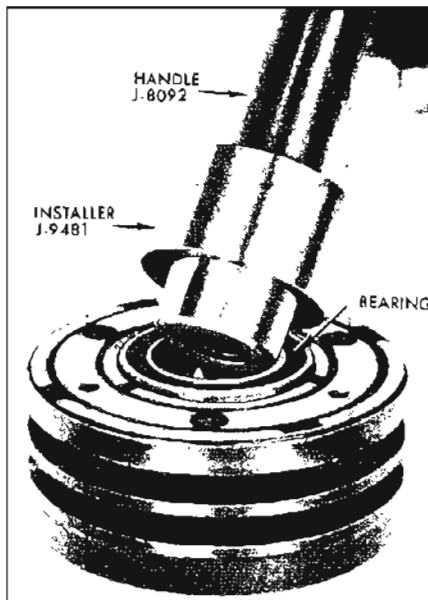

Figure 11-107—Installing Pulley Bearing
1. When replacing a new pulley bearing into the pulley assembly use J-9481 Pulley Bearing Installer and Drive Handle J-8092 as shown. See Figure 11-107.